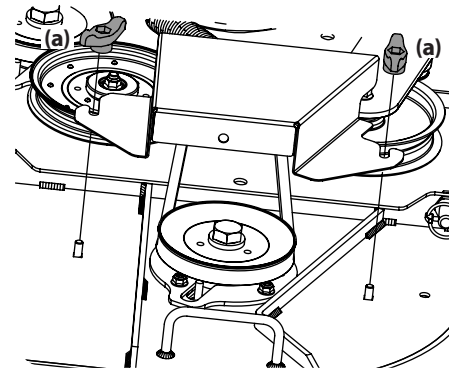

Figure 19
- Remove the wing knobs (a) securing the belt covers to the deck. See Figure 19.